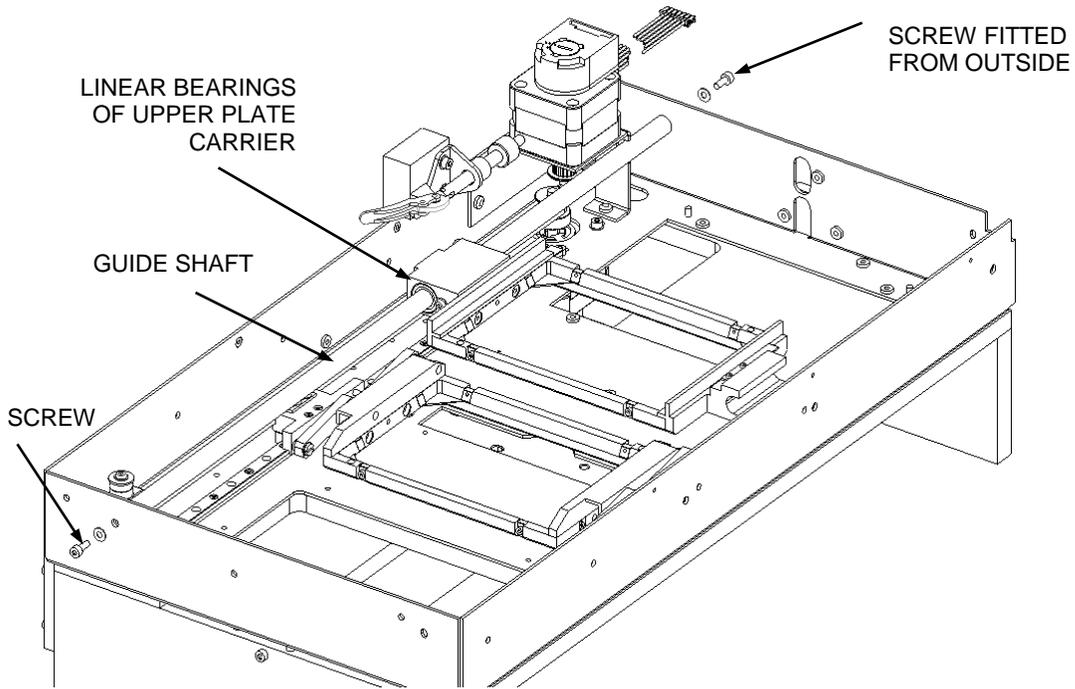

Figure 12-37: Left Guide Shaft
To remove the upper plate, remove the guide shafts shown in Figures 12-37 and 12-38.
2. Attach the Guide Shaft to the left side of the chassis (Figure 12-37) using two M3x8 Skt Cap Screws, two M3 Flat Washers and Loctite 222. Leave slightly loose for adjustment.